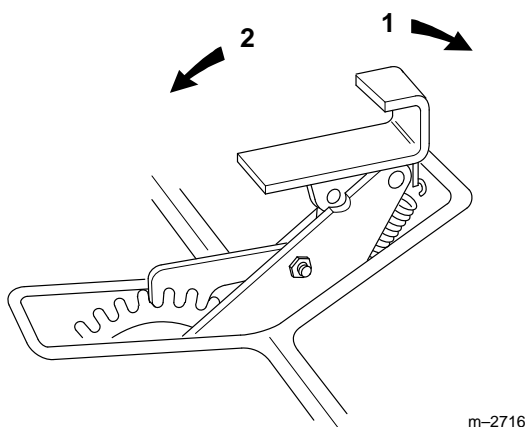

Figure 7
The attachment lift (Fig. 7) is used to raise and lower attachments.
1. Place your foot on the lift pedal (Fig. 7).
2. Push down with your foot, release the lock by rocking the pedal with your heel, then press with your toe to raise the attachment lift (Fig. 7). Remove your foot to hold the attachment in the up, or raised position.
2. Push down with your foot, release the lock by rocking the pedal with your heel, then release foot pressure to lower the attachment lift (Fig. 7). Remove your foot to hold the attachment in the down, or desired position.